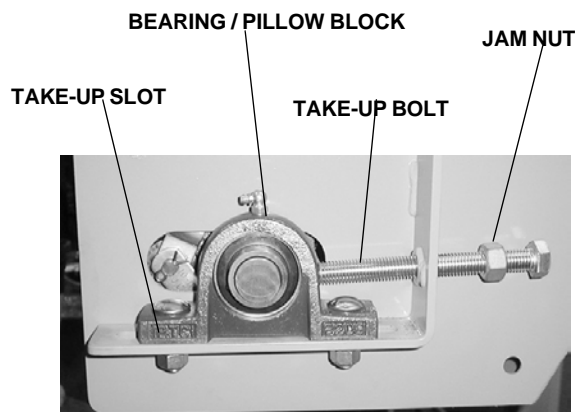

Figure 9. Indirect Drive Take Up Mechanism
1. Carefully jog the conveyor until an axle is accessible through the take-up slots, Figure 9.